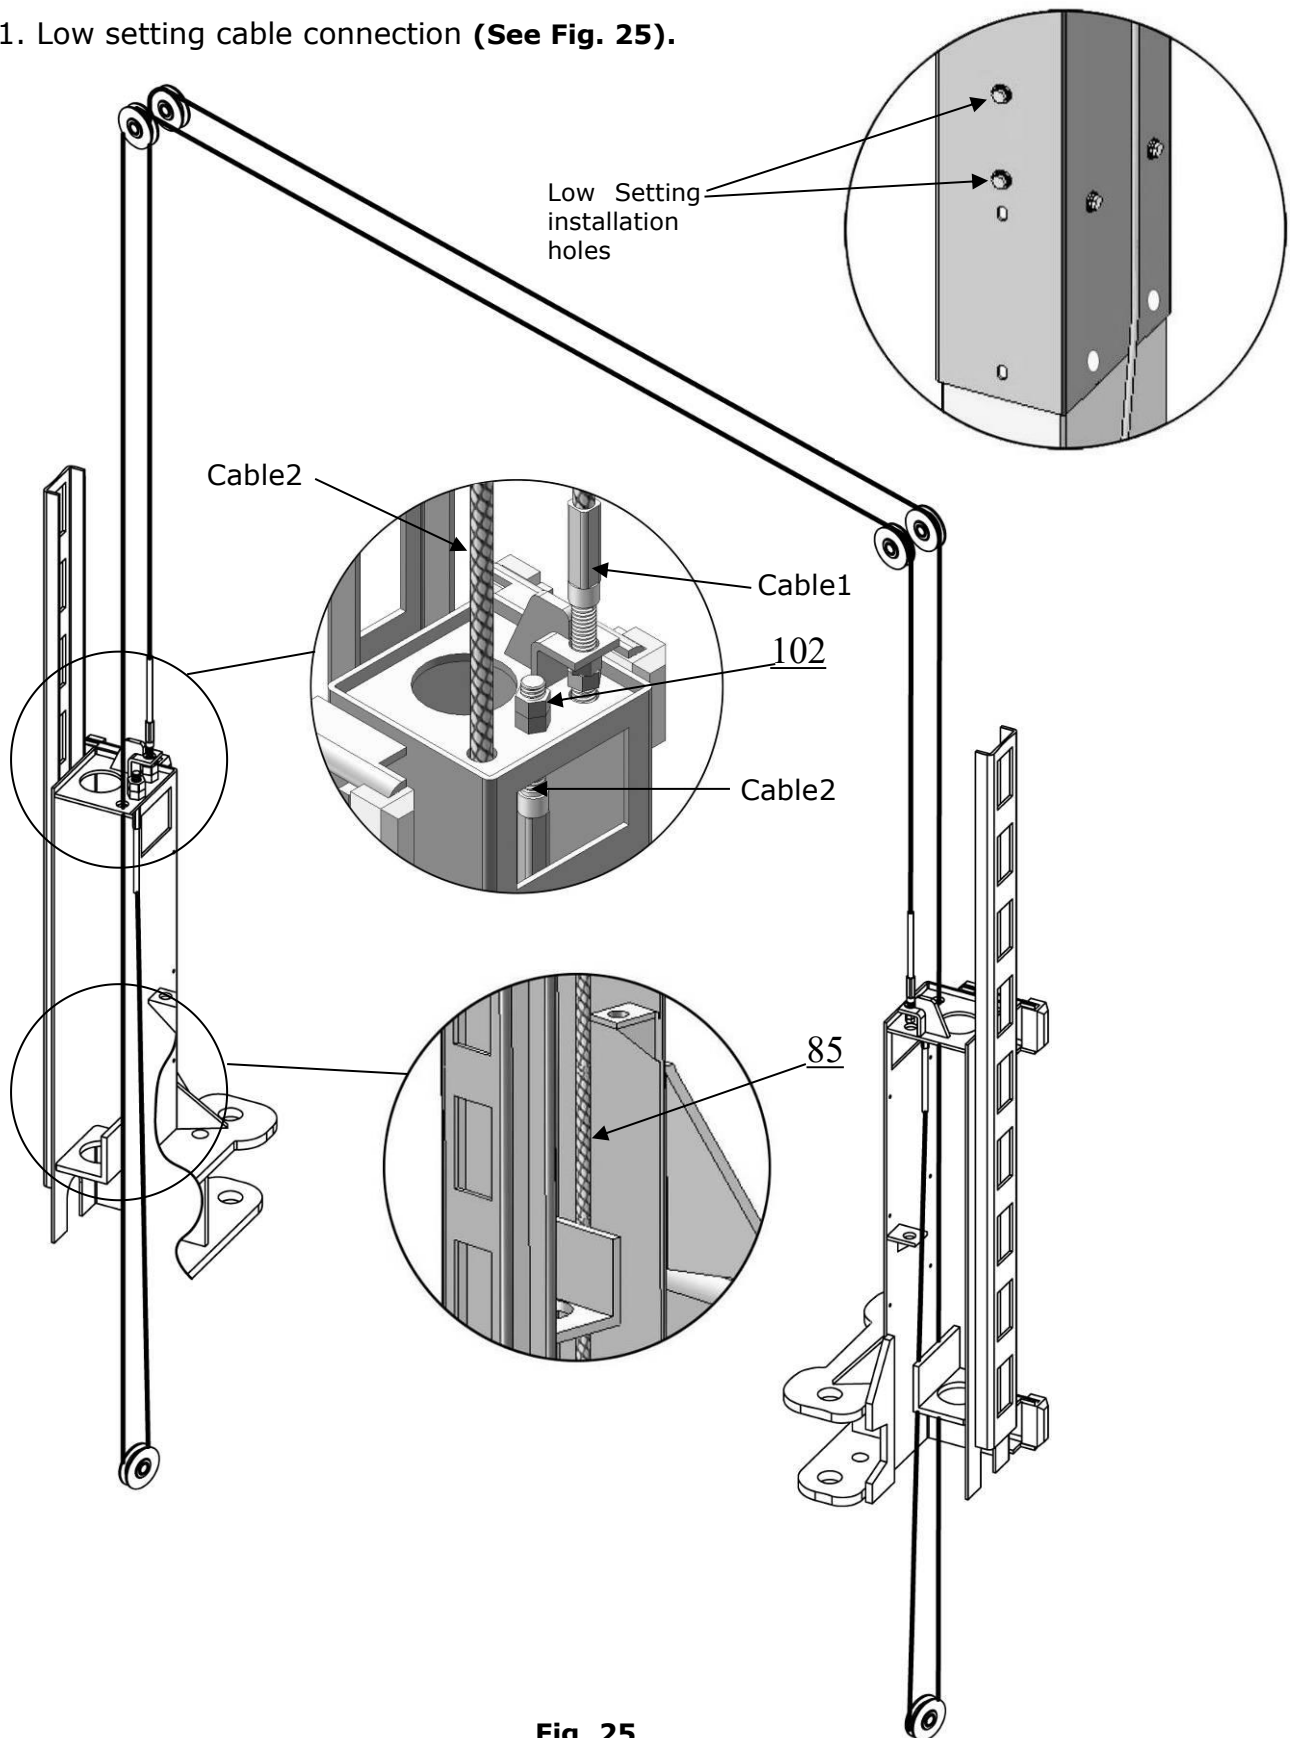

Fig. 25
1. Low setting cable connection (See Fig. 25).